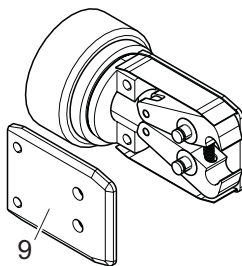

Fig. 28: Removing the side plate
6. Remove the side plate (Fig. 28/9).